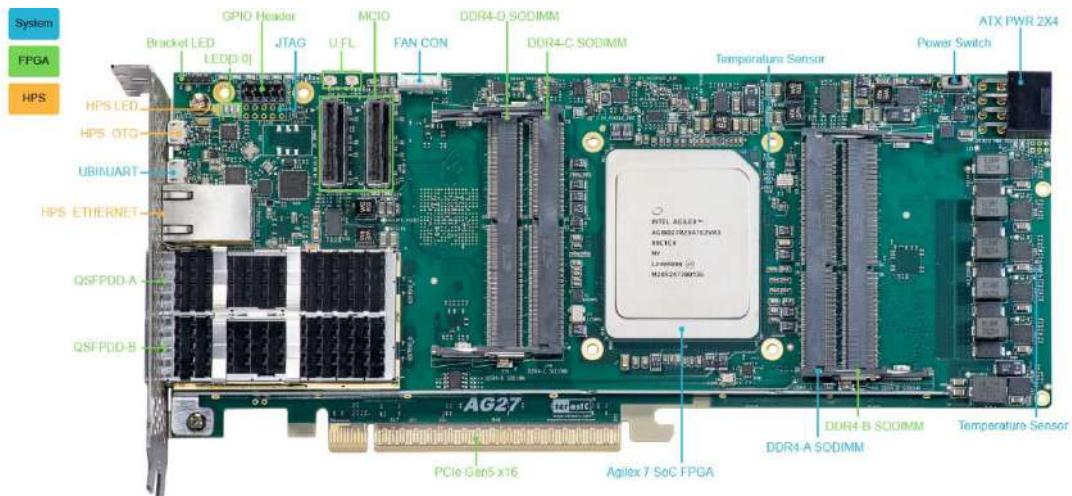
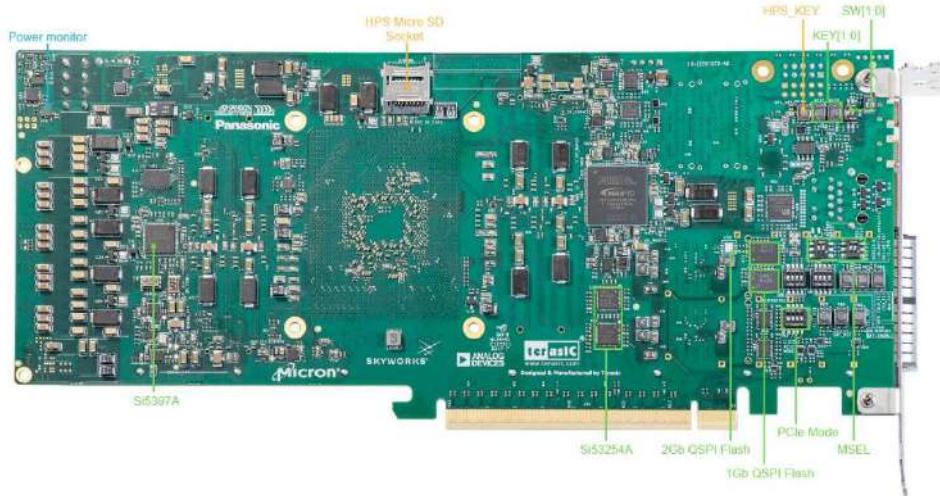

Figure 2-1 FPGA Board (Top)
Figure 2-2 FPGA Board (Bottom)
**Figure 2-1** and **Figure 2-2** is the top and bottom view of the Mercury A2700 Accelerator Card development board. It depicts the layout of the board and indicates the location of the connectors and key components. Users can refer to this figure for relative location of the connectors and key components.